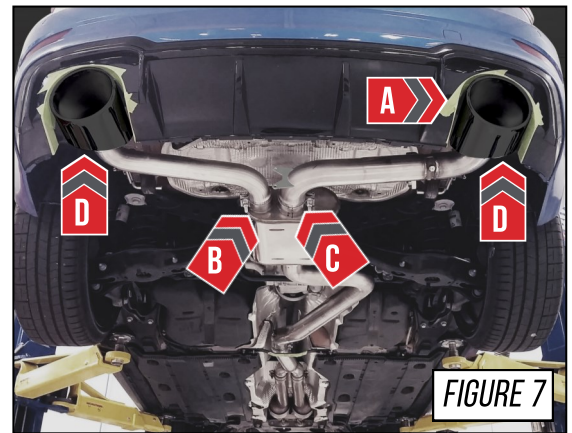

FIGURE 7
**PRO-TIP:** Prior to installing the tailpipe sections, protect the rear valiance with a low-bond masking tape or film to prevent scratching the paint in each tip pocket, shown by the **Arrow A** in **Figure 7**.
Place the included 2.5" Accu-Seal clamp of the driver side tailpipe section (*part A63*) and install onto the corresponding outlet from the muffler, as shown by **Arrow B** in **Figure 7**.
Place the final 3.0" Accu-Seal clamp over the inlet side of the passenger side tailpipe section (*part A64 SwitchPath™ or B48 Track Edition*), as shown by **Arrow C** in **Figure 7**.
Use the included hardware to secure the driver and passenger side RS tip into location, as shown by **Arrows D** in **Figure 7**.